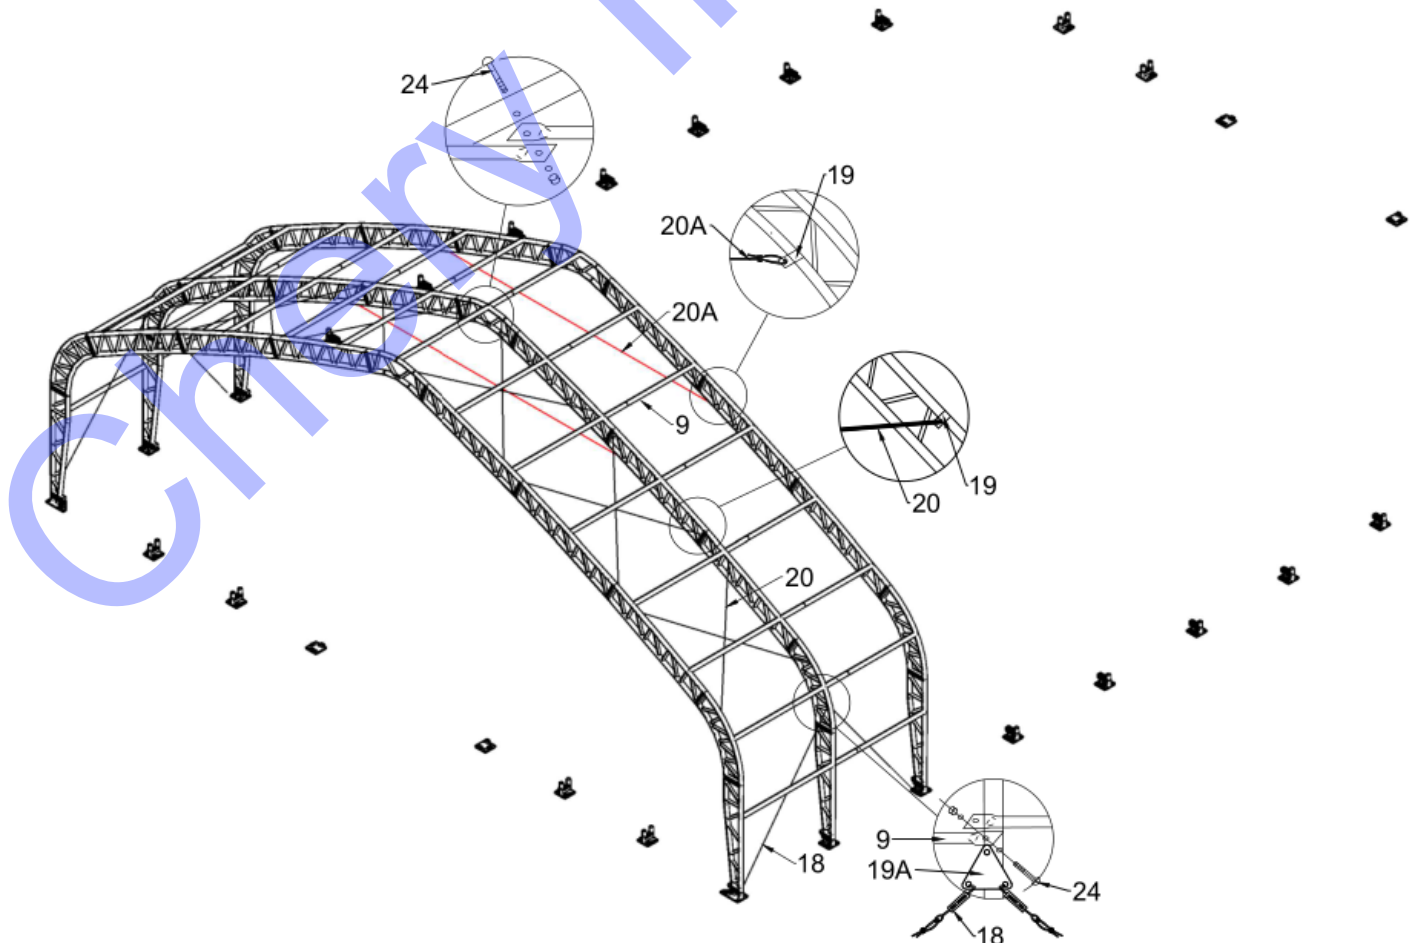

Figure 4
2. Connect Purlin(No.9) to arch by using Carriage bolt 10x90(No.24) by turns(see Figure 4),then connect the Steel wire(No.18 20 and No.20A) on top and side by using Clips(No.19) and Triangle(No.19A)(see Figure 4 and 1)